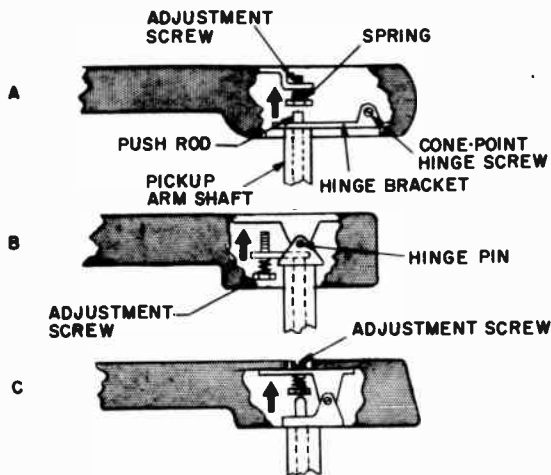

Fig. 801-a,-b,-c. Basic push rod arm-raising devices.
The various arm-raising devices do not differ too much. There are a few modifications but actually these can be broken down to two basic actions: (1) we can push up the pickup arm in front of the hinge or (2) we can pull down the pickup arm in back of the hinge. The differences come about in the method of pushing or pulling. The most popular device is a rod that pushes the arm in front of the hinge. Three examples are shown in Fig. 801. The push-rod device is popular because it facilitates adjustment and can be actuated smoothly. As shown, pickup-arm hinging can be accomplished in a number of ways: the arm can be hinged directly
The push rod rests freely inside the hollow pickup-arm shaft. With the simple arrangement shown in Fig. 801-a, the push rod rises to meet the screw and then pushes up the pickup arm. The screw can be adjusted so that, if it is turned down, the arm will be pushed up higher, and vice versa. The spring is used with the
The arrangement of Fig. 801-b does the same thing, except the adjustment screw is mounted on a push-rod assembly. Turning down this screw will decrease the pickup-arm height. The setup shown in Fig. 801-c is similar to that shown in Fig. 801-a except that it has the added feature that the screw can be turned from the top of the arm. To adjust the others, the arm must be lifted to gain access to the screw.